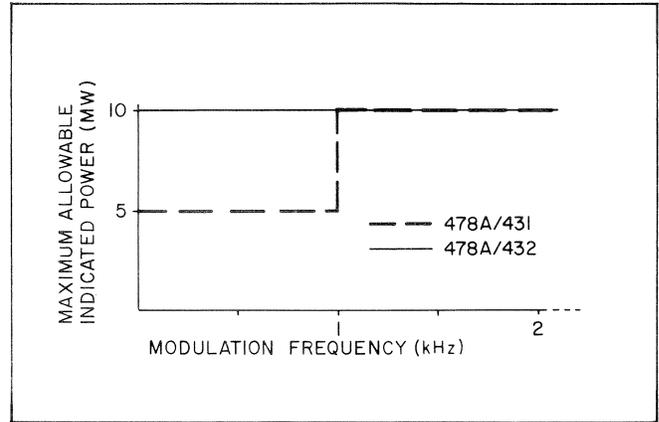

Figure 3. Maximum Power Meter Reading vs Square and Sine-Wave Frequency
17. Square-wave modulation is a special case of pulse modulation, and maximum power-meter reading versus square-wave frequency is illustrated in Figure 3. This figure also holds for sine-wave modulation.